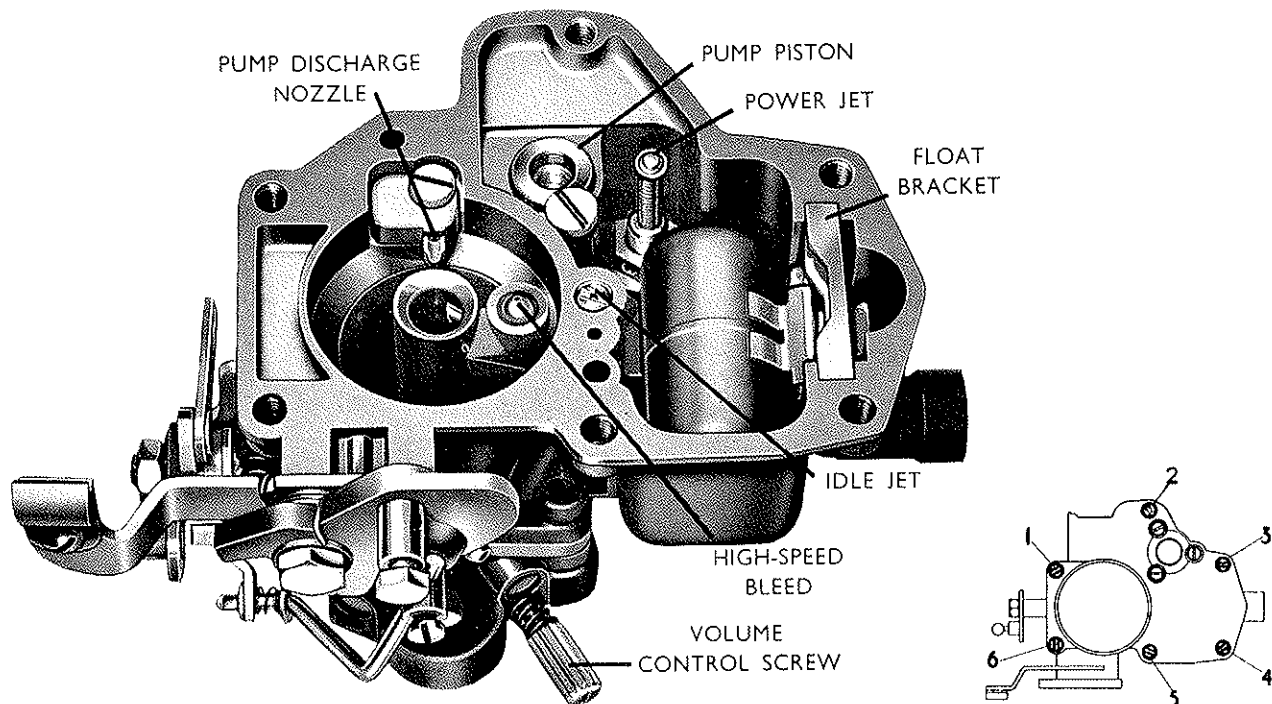

Fig. 3
To dismantle the carburettor, remove the six screws and spring washers (items 5, 6, 73 and 74 in the exploded illustration) when the floatchamber cover can be laid aside and the interior of the floatchamber will be exposed. This will give access to the idle tube, high speed bleed, accelerating pump, power jet, float, needle and seating. When replacing the cover, the screws should be put back and tightened in the following order (fig. 3):—2,5,1,4,6,3. Take care that the gasket is in position and undamaged; in the case of the 34 and 36 mm. sizes ensure that the pump lever, under the floatchamber cover, engages correctly in the top of the piston, and that the needle has entered its seating.
screws holding the cover are tightened evenly (see fig. 3) to ensure a good joint across that part of the cover in which the slow-running tube is situated.